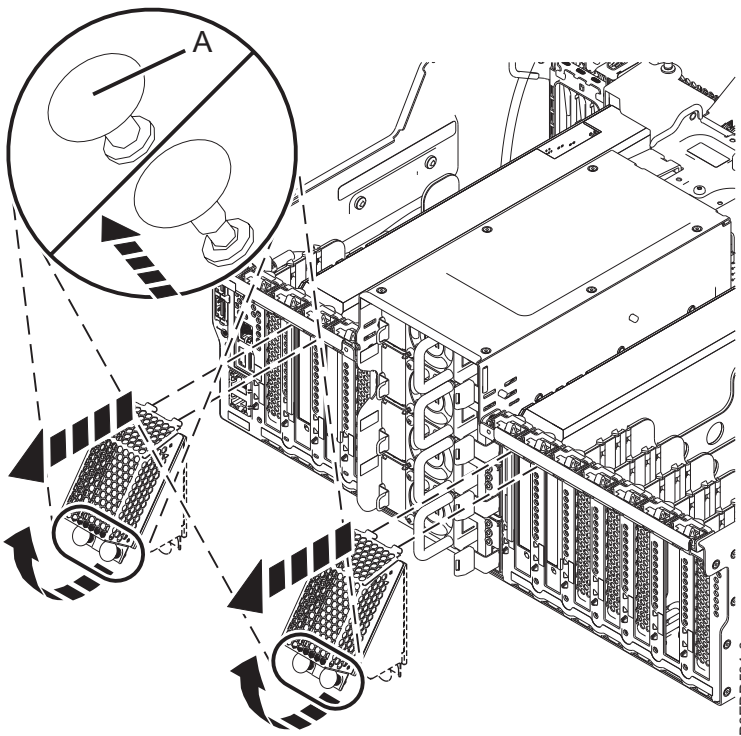

Figure 10. Removing the GPU adapter rear shield
- b. Remove the rear shield by pulling out the two plastic push-pins (A), then tilt the shield up to remove it. See Figure 10.